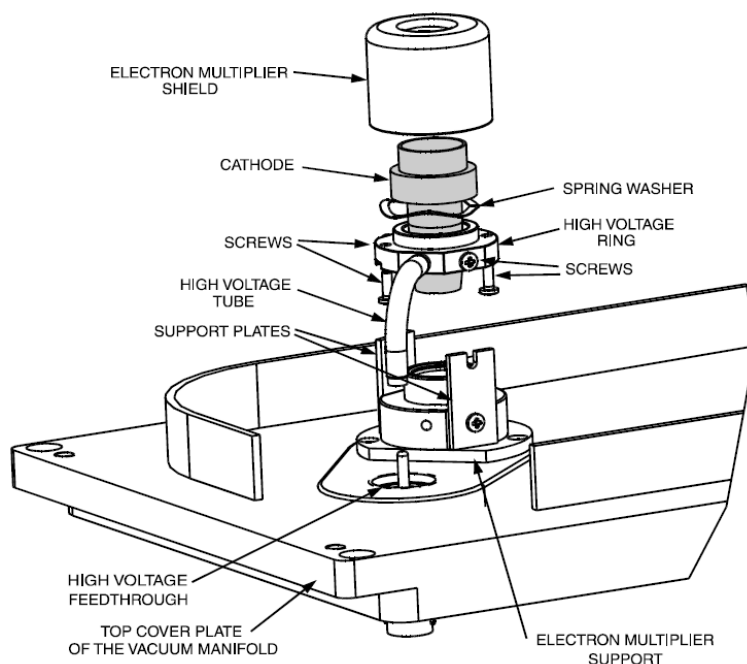

Figure 16. Exploded view of the electron multiplier, showing the cathode.
8.4.10. To replace the cathode, proceed as follows (see Figure 16):